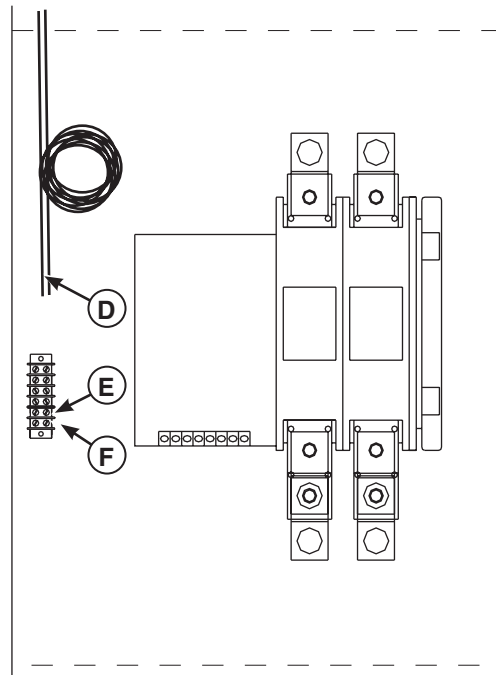

Figure 8 - Dynagen Customer Connections
7. Connect two wires in transfer switch labeled TSCOMM (**D**, Figure 8) to load manager terminals labelled TSCOMM.